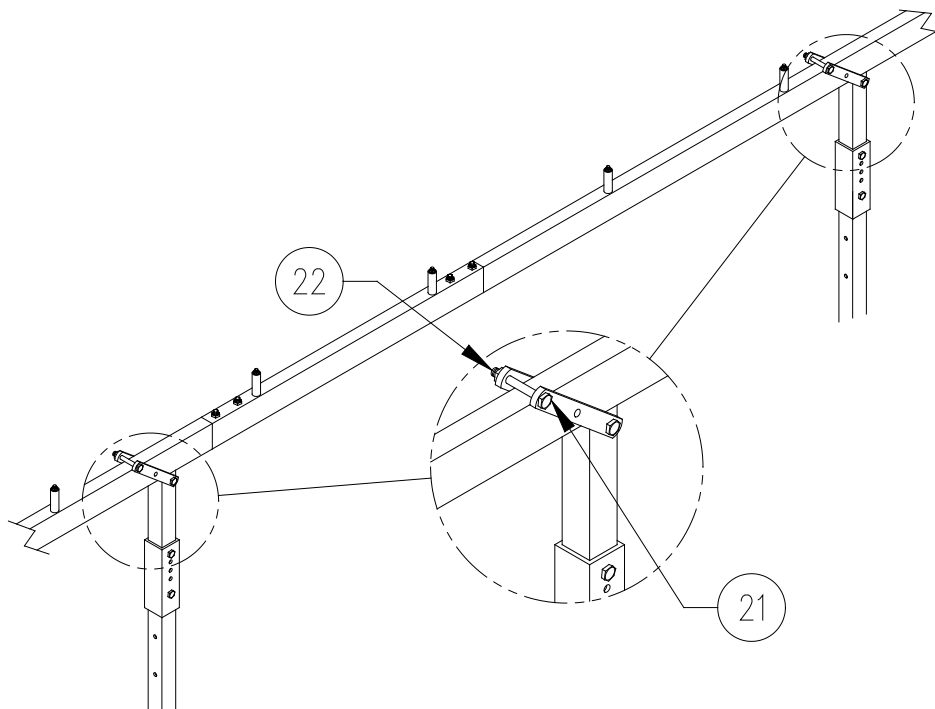

Figure 2-3.
5. Refer to **Figure 2-3**. Mount the assembled stringers to top of canopy extension legs on each side of lift. Position the stringers such that the canopy protects the entire length of the boat and fasten in place with hardware shown.